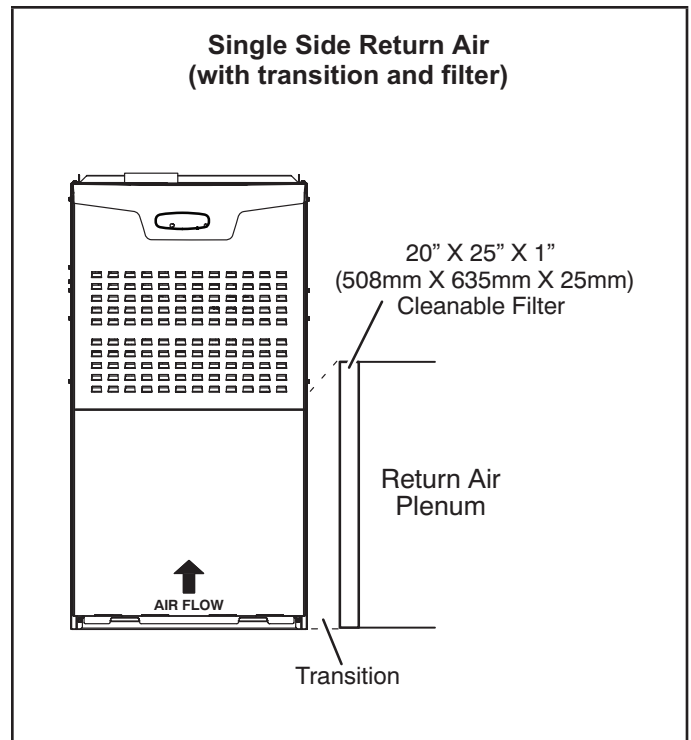

FIGURE 8
- 1 - Single side return air with optional return air base with transition that must accommodate required 20 x 25 x 1 in. (508 x 635 x 25 mm) air filter to maintain proper air velocity.) See FIGURE 8.